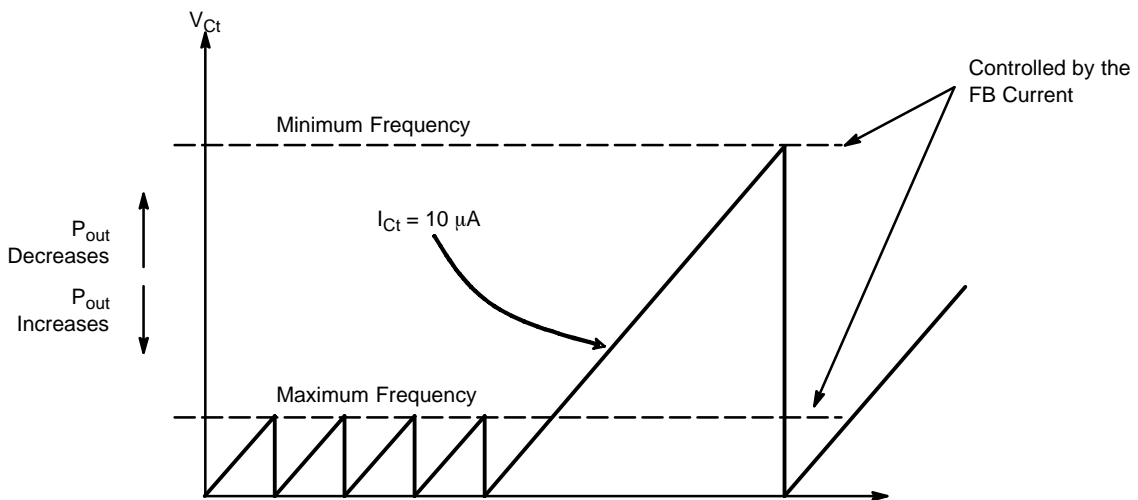
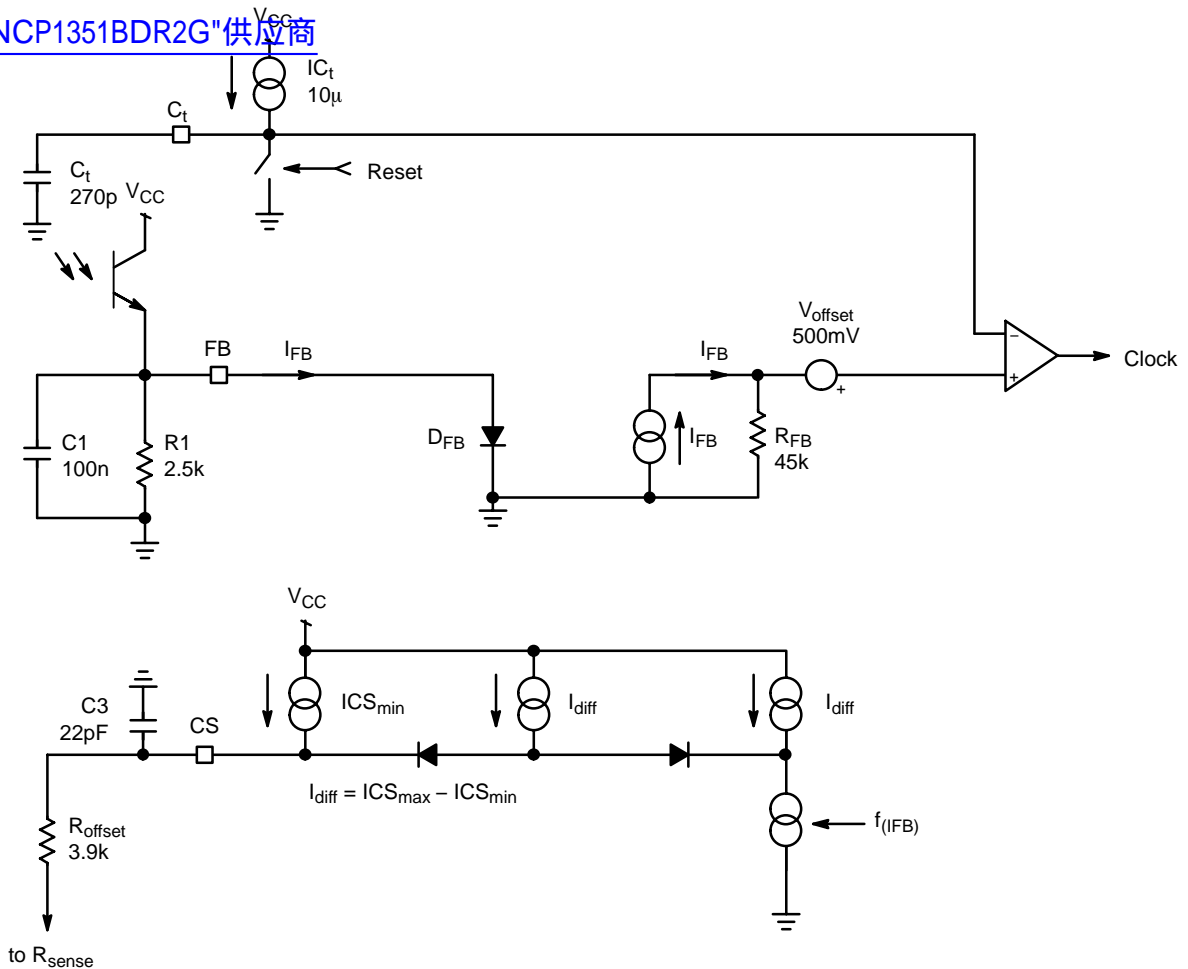

Figure 8. The Current Injected into the Feedback Loop Adjusts the Switching Frequency
Figure 13. The Feedback Section Inside the NCP1351
The feedback current controls the frequency by changing the timing capacitor end of charge voltage, as illustrated by Figure 8.
Unlike other controllers, the feedback in the NCP1351 works in current rather than voltage. Figure 13 details the internal circuitry of this particular section. The optocoupler injects a current into the FB pin in relationship with the input/output conditions.
The FB pin can actually be seen as a diode, forward biased by the optocoupler current. The feedback current, I_{FB} on Figure 13, enter an internal 45 k Ω resistor which develops a voltage. This voltage becomes the variable threshold point for the capacitor charge, as indicated by Figure 8. Thus, in lack of feedback current (start-up or short-circuit), there is no voltage across the 45 k Ω and the series offset of 500 mV clamps the capacitor swing. If a 270 pF capacitor is used, the maximum switching frequency is 65 kHz.
Folding the frequency back at a rather high peak current can obviously generate audible noise. For this reason, the NCP1351 uses a patented current compression technique which reduces the peak current in lighter load conditions. By design, the peak current changes from 100% of its full load value, to 30% of this value in light load conditions. This is the block placed on the lower left corner of Figure 13. In full
2. B version: the circuit stops its output pulses and the auxiliary V_{CC} decreases via the controller own consumption ($\approx 600 \mu\text{A}$). When it touches the $V_{CC(\min)}$ point, the circuit re-starts and attempts to crank the power supply. If it fails again, an hiccup mode takes place (Figure 13).